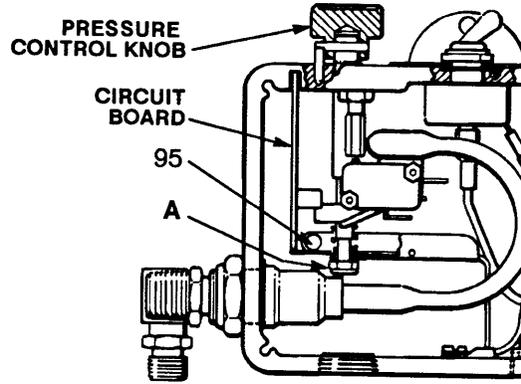

Fig 18
**NOTE:** See Fig 18 and 19 for this procedure.
2. Turn the pressure control knob to the minimum setting to release spring tension on the board. Check to be sure only three or four threads of the pressure control knob shaft are exposed below the pressure adjustment nut (A). Loosen the nut, if necessary. See Fig 18.